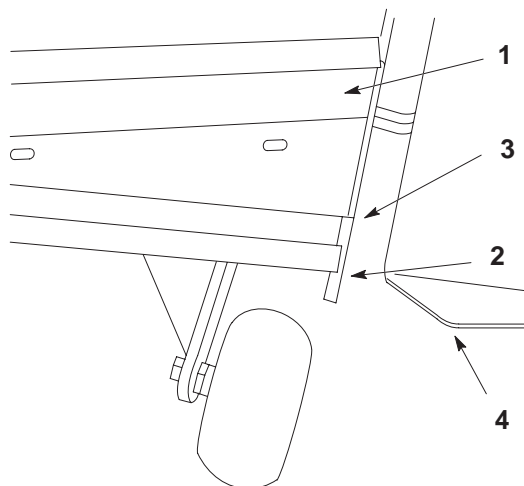

Figure 13
3. Align the front tunnel baffle flush with the outside of the mounting bracket (Figures 13 and 15).